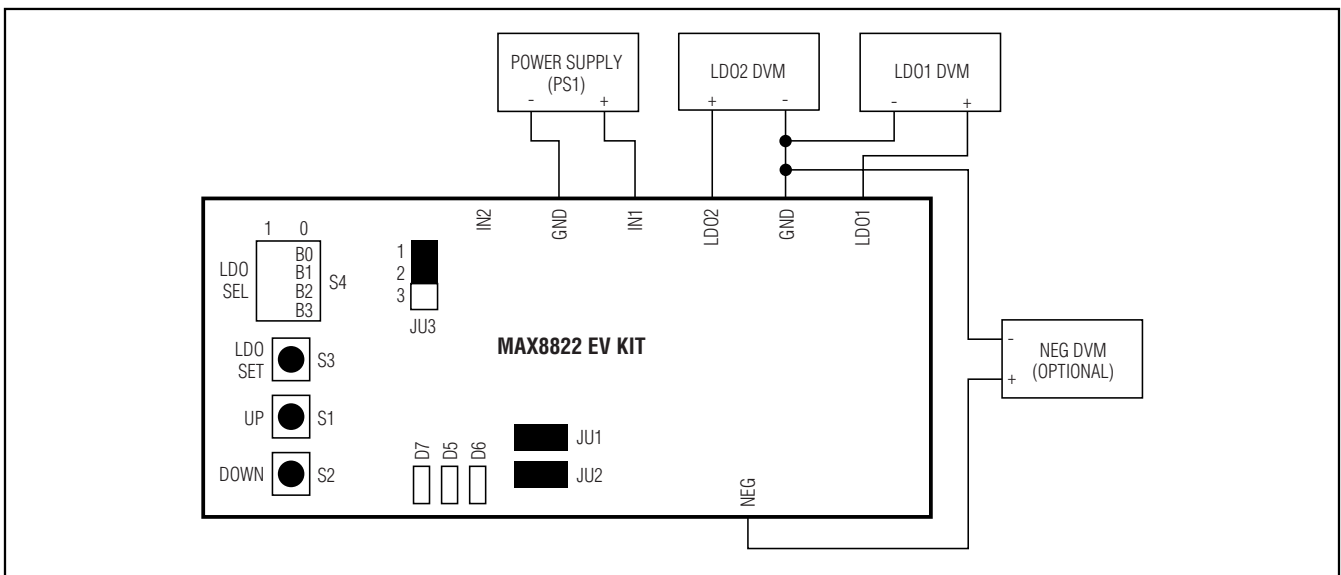

Figure 1. MAX8822 EV Kit Quick-Start Setup
The MAX8822 EV kit is fully assembled and tested. Follow the steps below to verify operation of the MAX8822 EV kit circuit (see Figure 1). **Caution: Do not turn on the power supply until all connections are completed.**
- 5) Configure connections according to Figure 1.